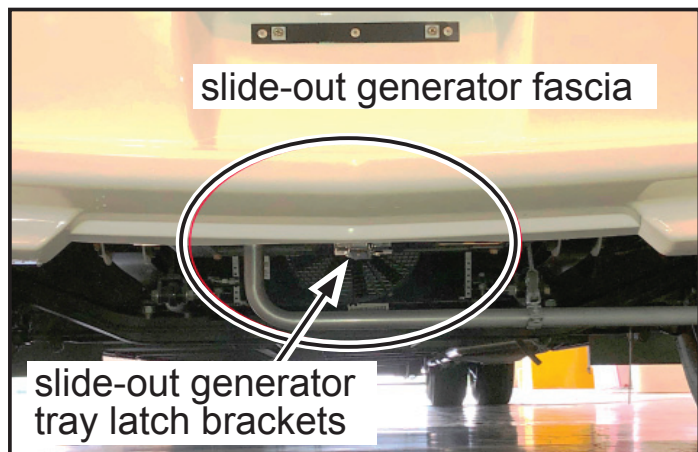
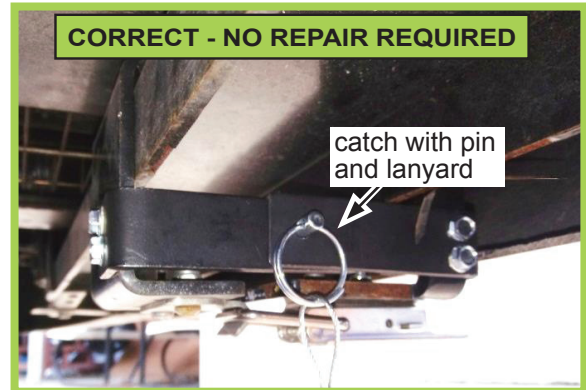

Figure 1
Figure 3
4. At the slide-out generator fascia at the front of the unit (see Figure 1), look under the coach at the brackets that hold the generator slide-out tray latch. In addition to the latch, there should also be a secondary catch, consisting of a set of metal brackets and a pin with lanyard. Review the photos on the next page (Figures 3 and 5) for the two types you may observe, based on the model year, product description and manufacturing date of the coach you are inspecting.